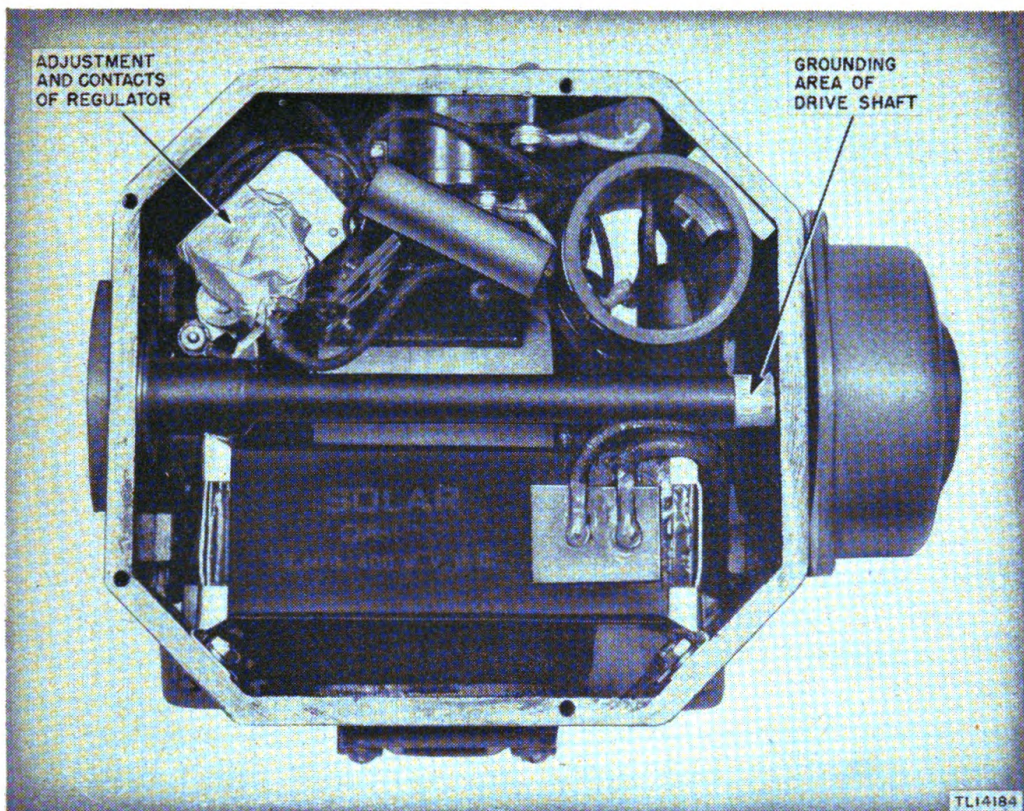

FIGURE 40.—Generator GN-44- ()—view with top cover removed showing method of masking parts.
(3) Adjustment and contacts of regulator (fig. 40).
(4) Grounding area of drive shaft (fig. 40).